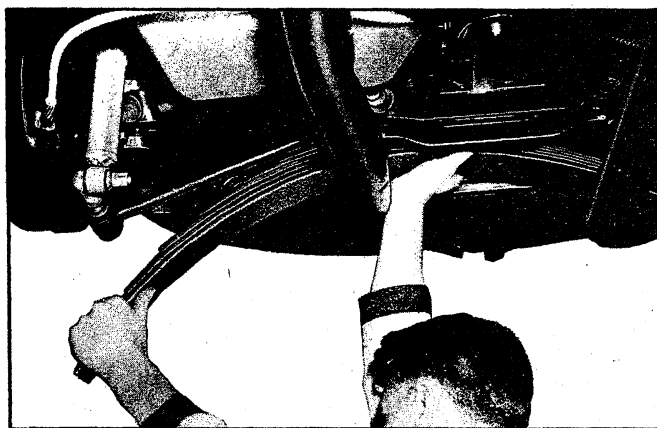

Fig. 59—Lowering Spring (Corvette)
9. Drop spring and slide out from under vehicle (fig. 59).